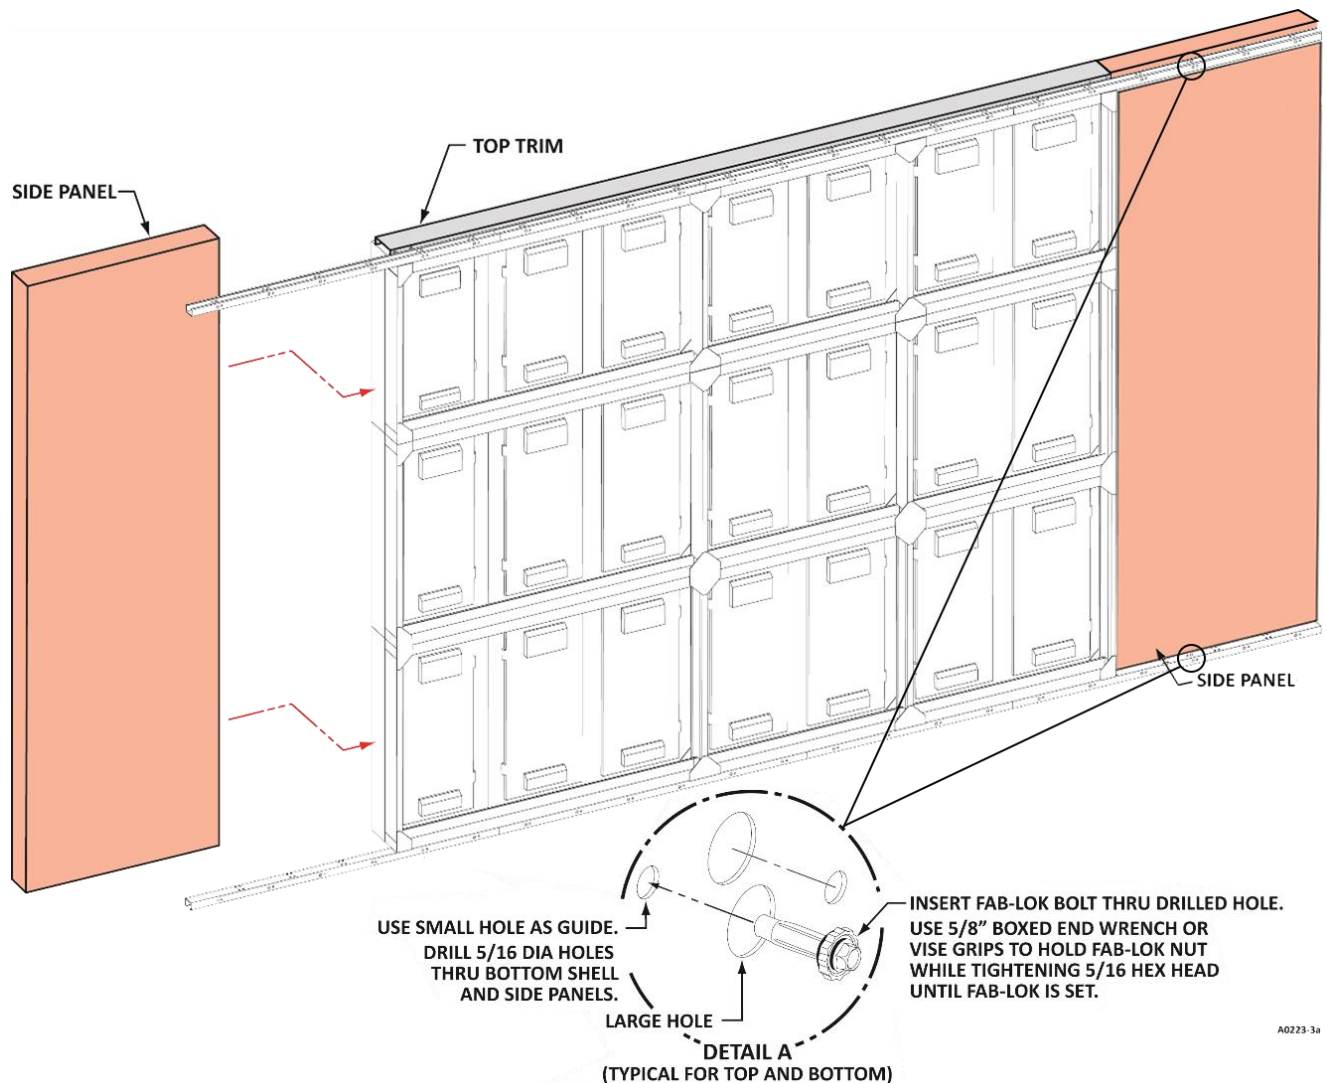

FIGURE 15 – SIDE PANEL TO LED DISPLAY SECTION
- Lift the Side Panel into place using provided pick points so that the top is flush with the top and bottom trim and the back is against the U-channels that extend past the ends of the display. See Figure 15 above. It is normal to have up to 1/4" gap between the Side Panel and the LED display cabinet.